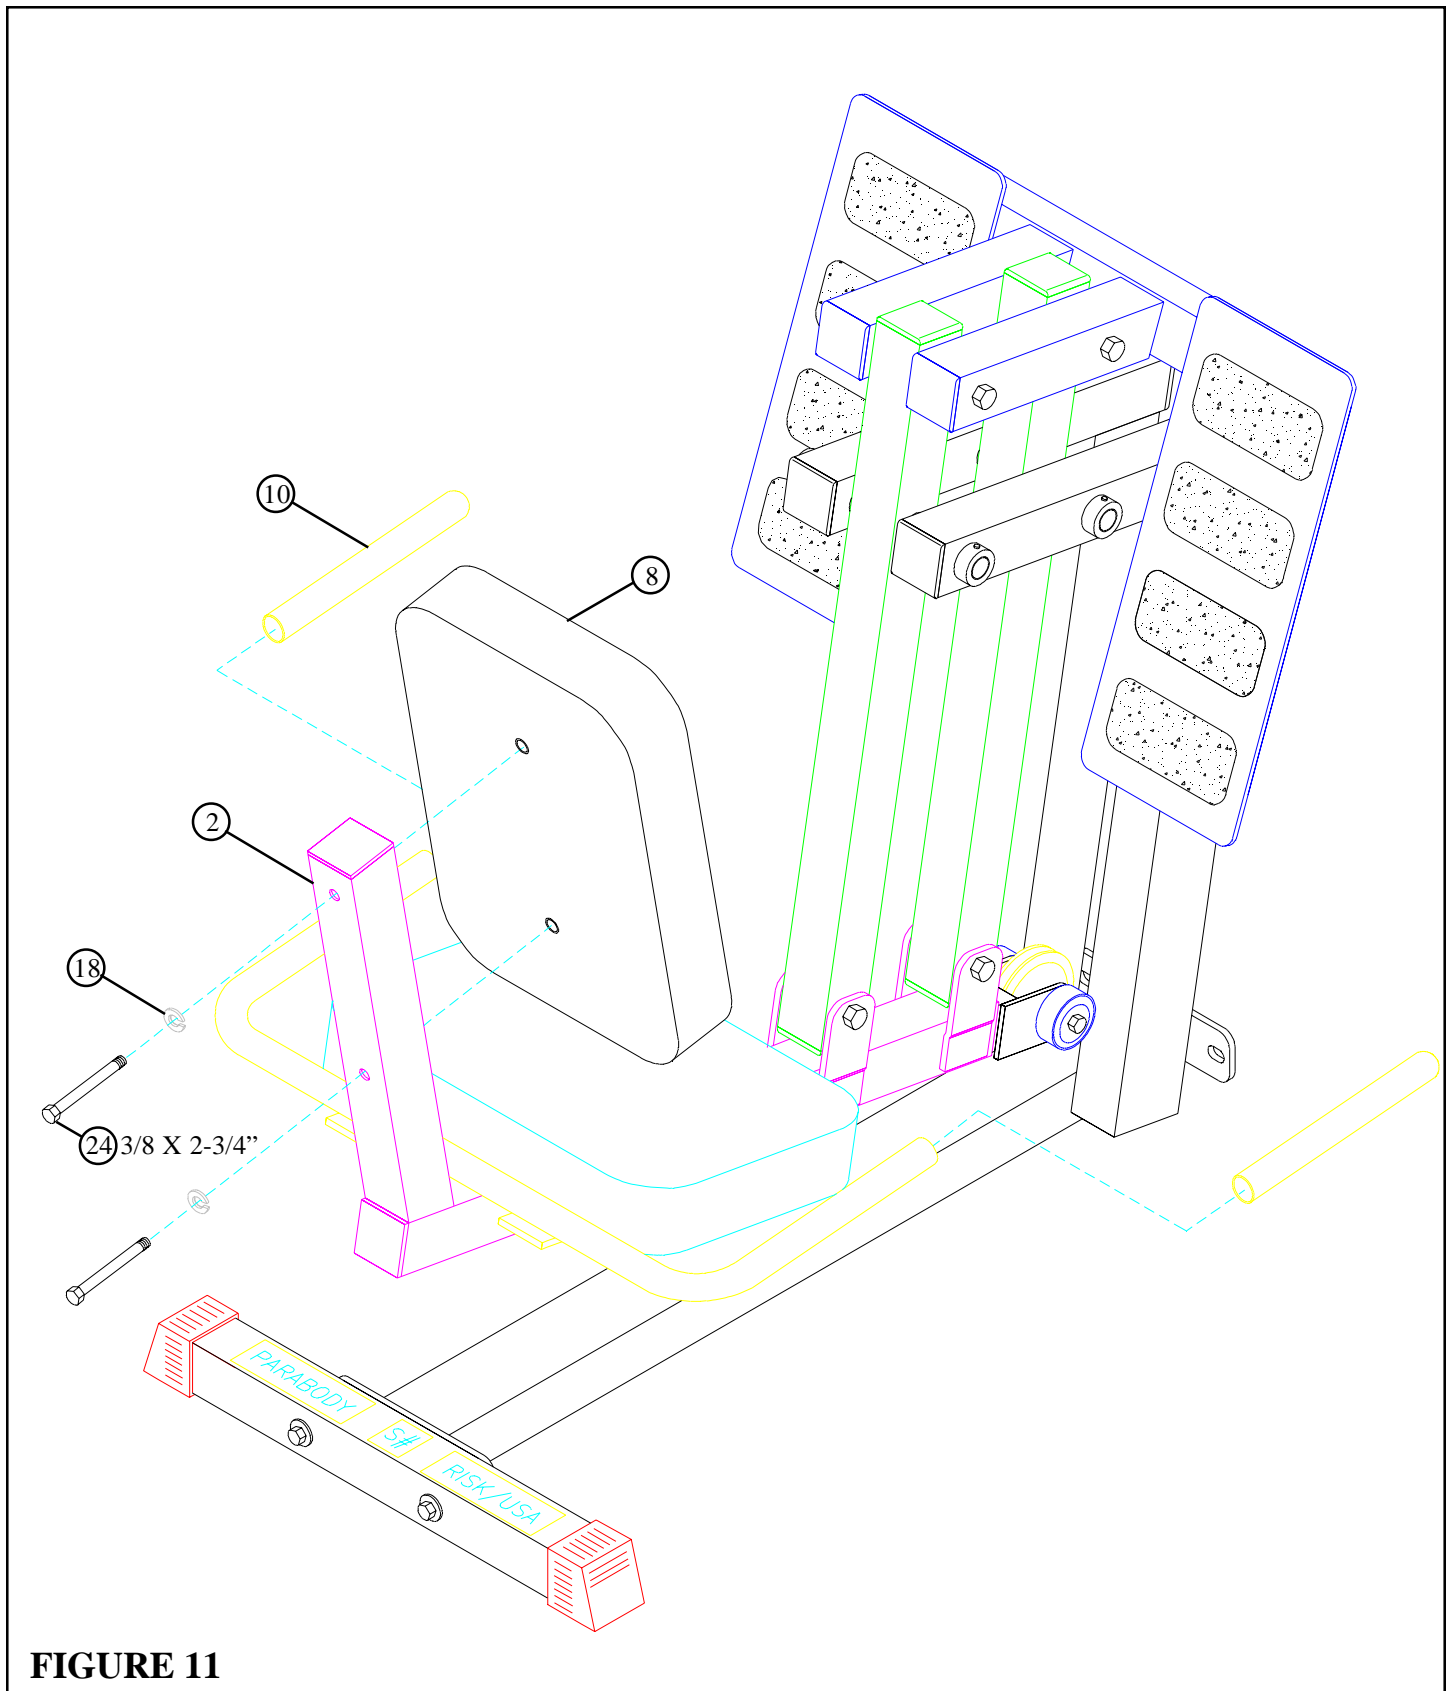

FIGURE 11
- **SECURELY** assemble the SEAT PAD (8) to the SEAT FRAME (2) using two 3/8 X 2-3/4" BOLTS (24) and two 3/8" LOCK WASHERS (18) as shown in FIGURE 11.
- Slide two 1 X 8" GRIPS (10) over each HANDLE (6) as shown in FIGURE 11.